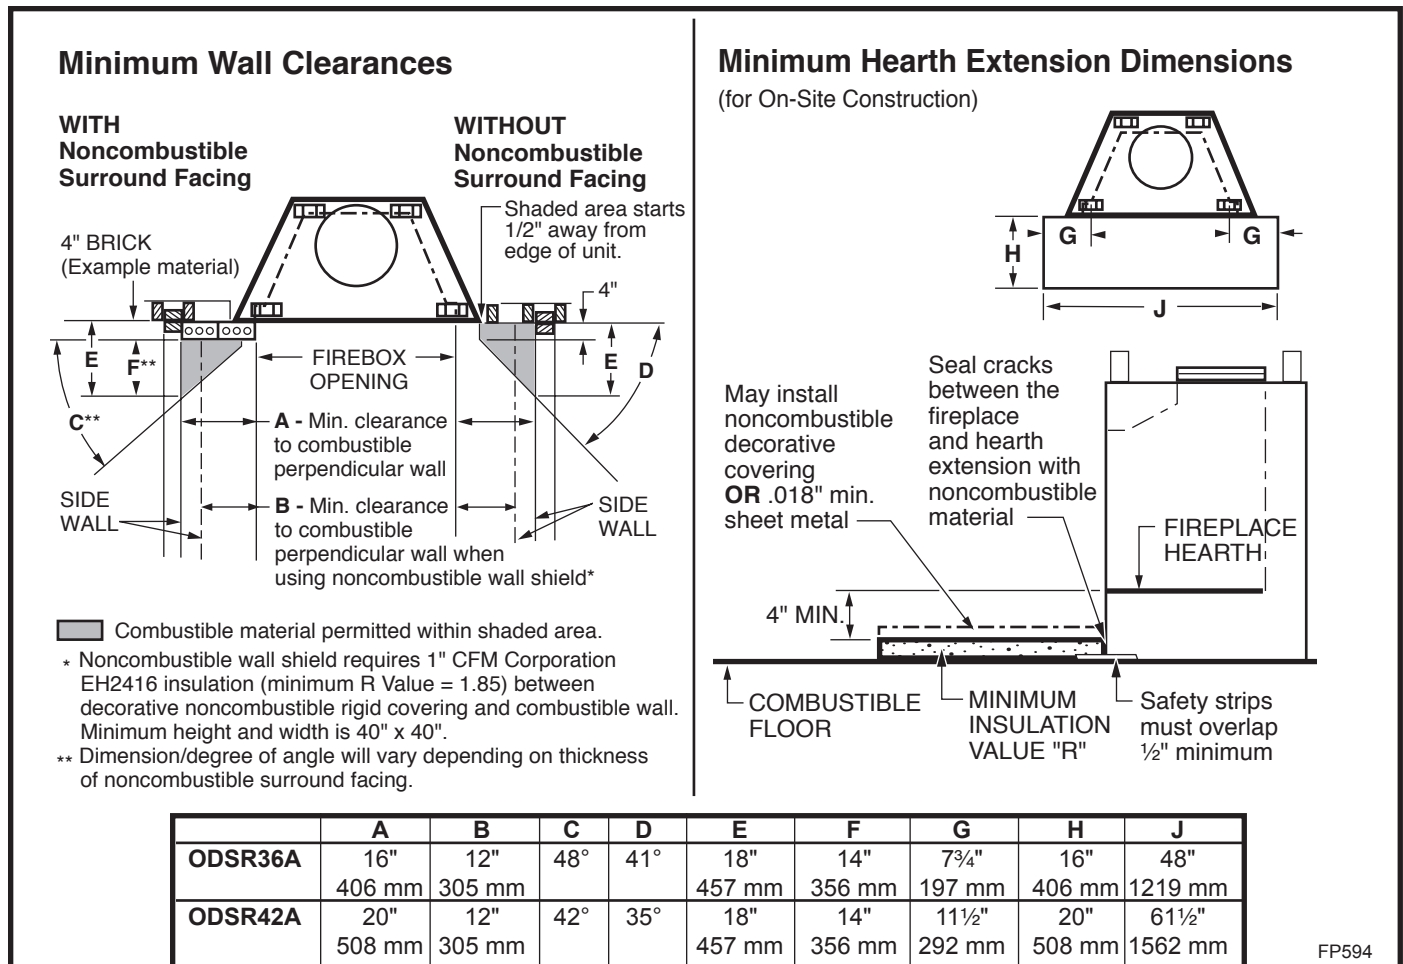

Fig. 22 Combustible side wall protection and hearth extension dimensions.
Often a decorative surround or vertical portion of the mantel is desired. If this is constructed of any combustible material it must be within the safe zone indicated in Figure 22.
Adjacent combustible side walls that are within the minimum dimensions shown in Figure 22 of fireplace opening must be protected with CFM Corporation Wall Shield Model SP40 or a specifically built wall shield described below.
A hearth extension is required to protect a combustible floor in front of the fireplace. Refer to Figure 22 for minimum dimensions and mounting detail.
The hearth extension described in Figure 22 must be a durable noncombustible material with a minimum (total) Rt value of 1.09; refer to Figure 23 for examples. The overall height (above a combustible floor), depth and width must be as indicated, with the extension centered to the fireplace opening.
The top of insulation must be covered with a noncombustible decorative covering **or** a piece of .018" minimum sheet metal, to protect hearth extension material. (Fig. 22)
Secure the hearth extension to the floor to prevent shifting, using trim molding or other similar means at three (3) outer edges. Seal crack between the fireplace hearth and hearth extension with a noncombustible material. (Figs. 22 and 24)